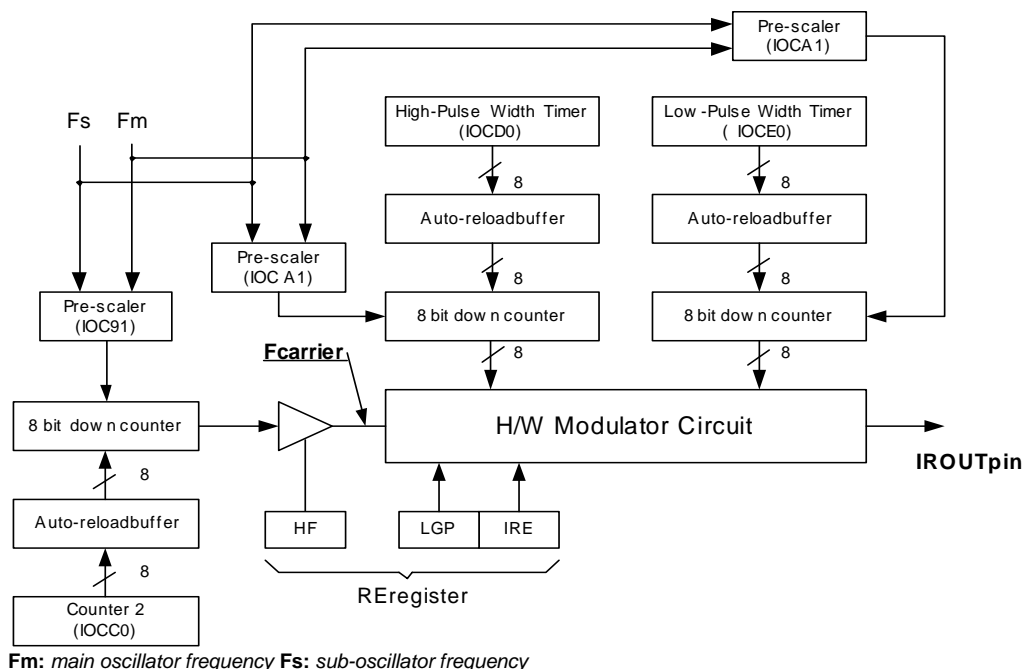

Fig. 6-20 IR/PWM System Block Diagram
This LSI can output infrared carrier in user-friendly or in PWM standard waveform. The IR and PWM waveform generated functions include an 8-bit down count timer/counter, high-pulse width timer, low-pulse width timer, and IR control register. The IR system block diagram is shown in Fig. 6-20. The IROUT pin waveform is determined by IR control register (RE), IOC90 (Counters 1 and 2 control register), IOCA0 (high-pulse width timer, low-pulse width timer control register), IOCC0 (Counter 2 preset), IOCD0 (high-pulse width timer preset register), and IOCE0 (low-pulse width timer preset register). Details on $F_{carrier}$, high-pulse time, and low pulse time are explained as follows: